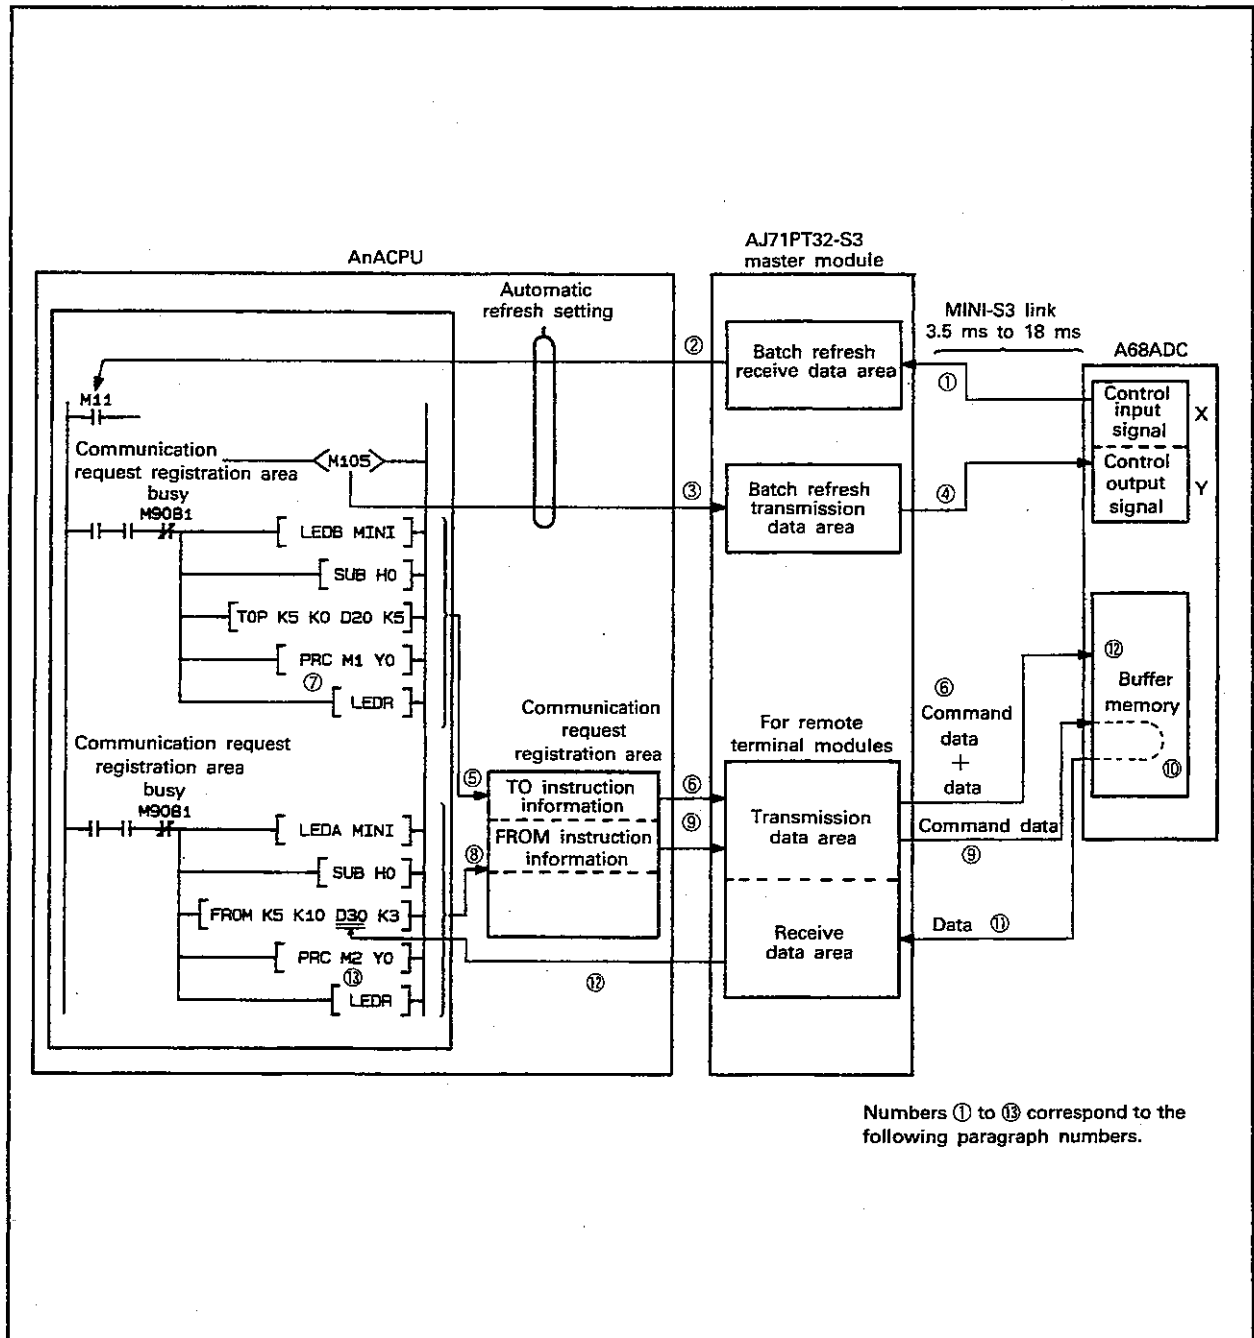

Fig. 4.1 Communication Procedures
- ⑦ When the transmission completion response of the A68ADC is received by the AnACPU via the receive data areas in the master module, the communication completion flag (device M1 in Fig. 4.1) designated by the PRC instruction turns ON for 1 scan. When communication is completed, the TO instruction information stored in the communication request registration area is cleared.
(3) Reading data from the A68ADC buffer memory
- ⑧ By execution of the "LEDA MINI to FROM" instruction (MINI-S3 dedicated instructions) of the sequence program, information such as master module I/O addresses, A68ADC station setting, buffer memory addresses and read instruction commands is stored in the communication request registration areas.
- ⑨ By execution of the PRC instruction, the FROM instruction information stored in the communication request registration area is written to the remote terminal module transmit data areas in the master module. When the information write is completed, the data is transmitted to the A68ADC through the MINI-S3 link. This transmission is performed several times. (one word data per one time)
- ⑩ When the A68ADC has received the FROM instruction information, it sends data stored in the buffer memory back to the master module according to the address data of the information. (One word data per one time.)
- ⑪ Data received from the A68ADC is stored in the receive areas of remote terminal numbers corresponding to station setting of the A68ADC.
- ⑫ Data stored in the remote terminal module receive data areas is stored in the word devices designated by the FROM instruction.
- ⑬ After storing the data received from the A68ADC buffer memory in the designated devices, the AnACPU turns ON the communication completion flag (device M2 in Fig. 4.1) designated by the PRC instruction for 1 scan. When communication is completed, the FROM instruction information stored in the communication request registration area is cleared.